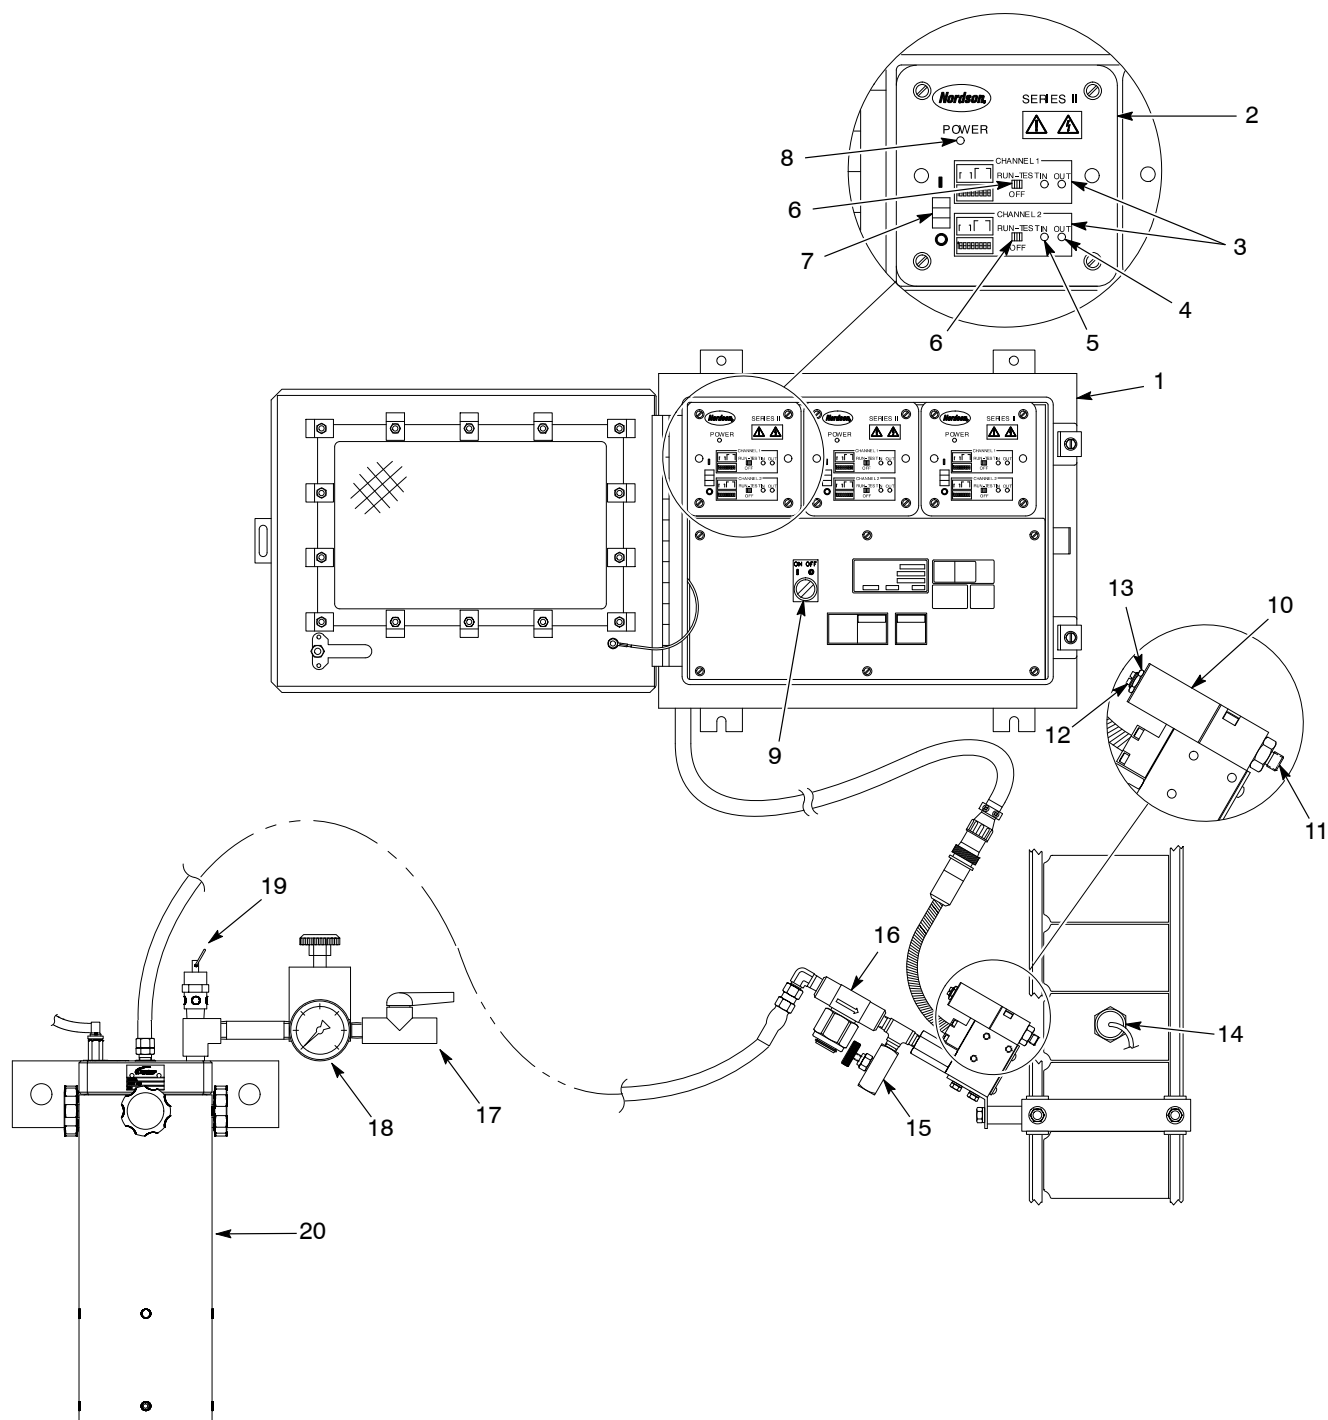

Figure 1 Typical System
The major components are described in Table 1. See Figure 1 for component location.
See Figure 1. Before putting the system into service, flush the system with a compatible solvent.
1. See Figure 1. Open the air shut-off valve (17).
2. Set the air pressure regulator (18) to 0.4–0.7 bar (5–10 psi).
3. Turn on the Ink-Dot controller power switch (9).
4. Turn on the driver power switch (7).
5. Set the RUN/OFF/TEST switch (6) to RUN.
1. See Figure 1. Set the RUN/OFF/TEST switch (6) to OFF.
2. Turn off the driver power switch (7).
3. Turn off the controller power switch (9).
4. Turn off the air supply link to the reservoir by closing the air shut-off valve (17).
5. Set the air pressure regulator (18) to 0 bar/psi. Pull on the relief valve lanyard (19) to relieve system air pressure.
1. See Figure 1. Set the RUN/OFF/TEST switch (6) in the Ink-Dot control unit to OFF.
2. Set the air pressure regulator (18) to 0.5 bar (7 psi) at the ink reservoir.
3. Loosen the locknut (13).
4. Carefully screw in the armature sleeve (12) until it stops or bottoms out.
6. Hold a piece of paper by the bottom of the can and in line with the nozzle (11).
7. Set the RUN/OFF/TEST switch (6) in the Ink-Dot control unit to TEST. Adjust the armature sleeve until the dot is the desired size, typically 2–3 mm.
1. See Figure 1. Close the air shut-off valve (17).
2. Set the air pressure regulator (18) to 0 bar/psi. Pull on the relief valve lanyard (19) to relieve system air pressure.
3. Set the RUN/TEST/OFF switch (6) to OFF.
4. Remove the nozzle (11) and clean with flushing thinner and the nozzle brush.
5. Loosen the locknut (13). Back out the armature sleeve (12) one turn.
9. Open the bleeder valve (15) to bleed air out of the hose. Close the bleeder valve.
See Figure 1. Perform steps 1 through 8 of *Initial Startup*.